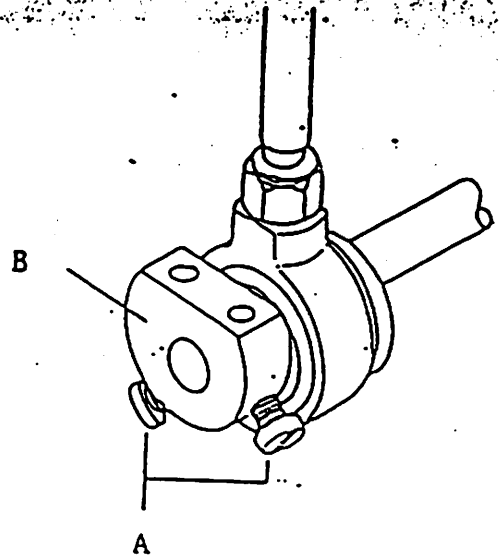

Fig.14
- a) Synchronization to needle bar (Fig.14)